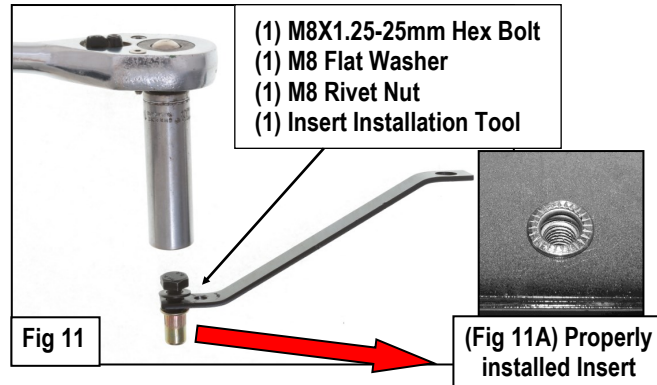

Fig 11
Select (1) Insert Installation Tool, (1) M8 Rivet Nut, (1) M8X1.25-25mm Hex Bolt and (1) M8 Large Flat Washer. Assemble the Insert Installation Tool as shown on Fig 11.